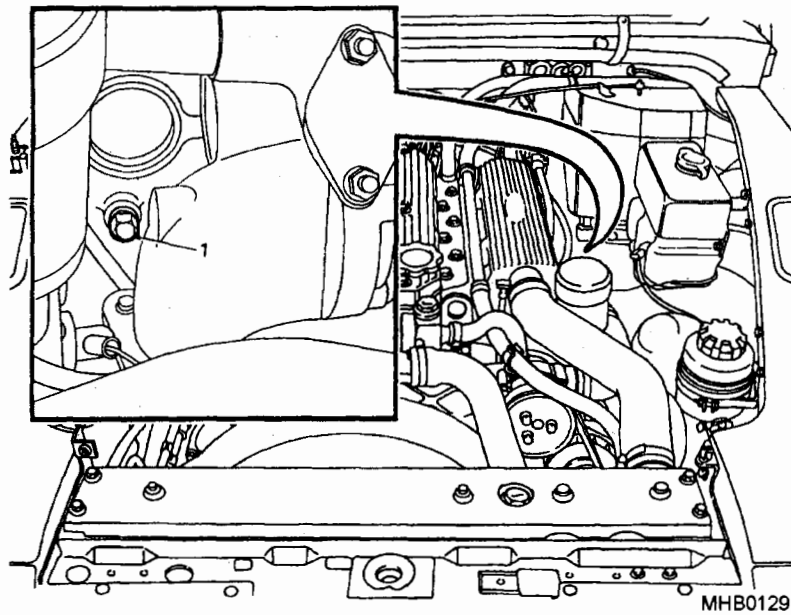

Fig 48 Cylinder block drain plug
52.3 Remove the cylinder block drain plug (Fig 48 (1)) which is on the left hand side of the engine.